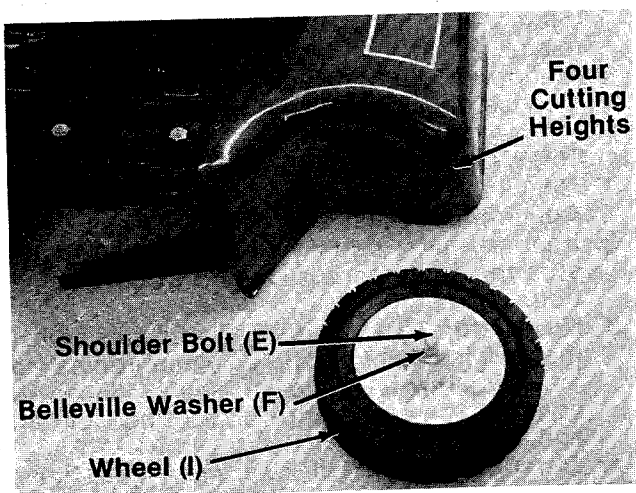

FIGURE 3.
3. Your mower has four height settings. Use the same hole for all four wheels when assembling. See figure 3.
- ← 4. Place shoulder bolt (E) through wheel (I). See figure 3.
5. Place crown side of belleville washer (F) towards the wheel (away from deck). See figure 3.
Adjustment is made by removing and moving axle bolts to desired position. Cutting heights will be raised as axle bolts are moved to a lower hole and lowered as axle bolts are moved to a higher hole in the deck. All axle bolts must be mounted in the same relative position to the deck. See figure 3.